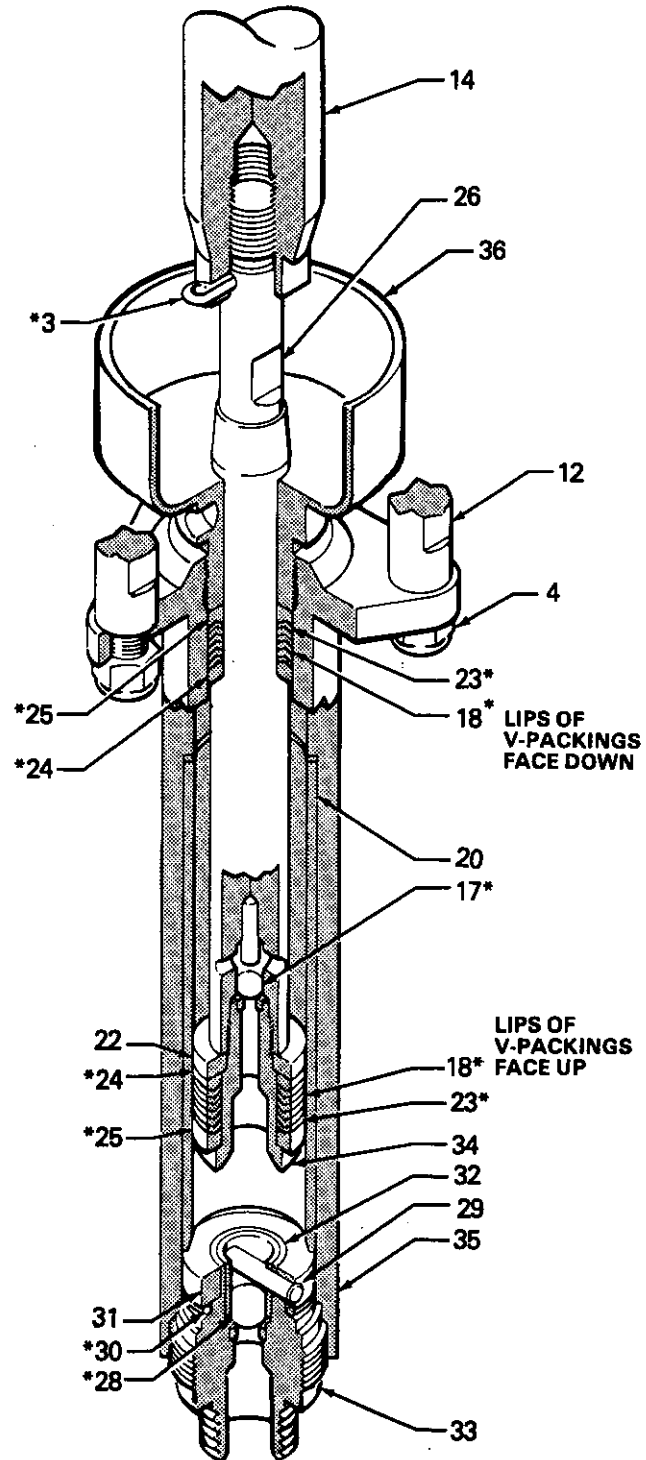

Fig 3
Screw the intake valve housing (33) out of the outlet housing (35). If the valve is seized in the housing, squirt penetrating oil around the threads and *gently* tap around the housing with a plastic hammer to loosen. See Fig 3 or 4.
One at a time, install a female gland (25\*), one PTFE® v-packing (23\*), five leather v-packings (18\*), a male gland (24\*), and the packing retainer (22) onto the piston (34). See Fig 3.
One at a time, install a male gland (24\*), five leather v-packings (18\*), one PTFE® v-packing (23\*), and a female gland (25\*) into the throat of the pump housing (35). See Fig 3.